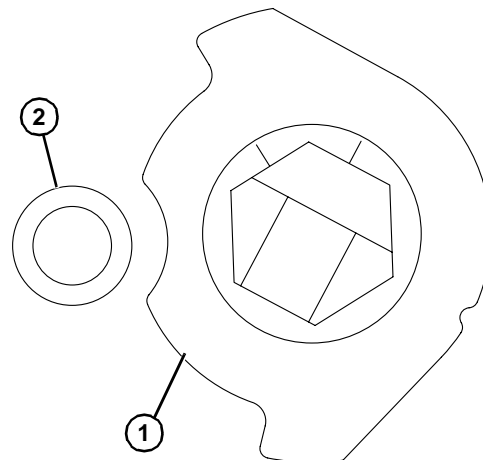

Figure 17
3. Hex shaft assembly will need to be rotated (Figure 17) for stop keys (Figure 17, item 1) to pass by the frame stops (Figure 17, item 2).